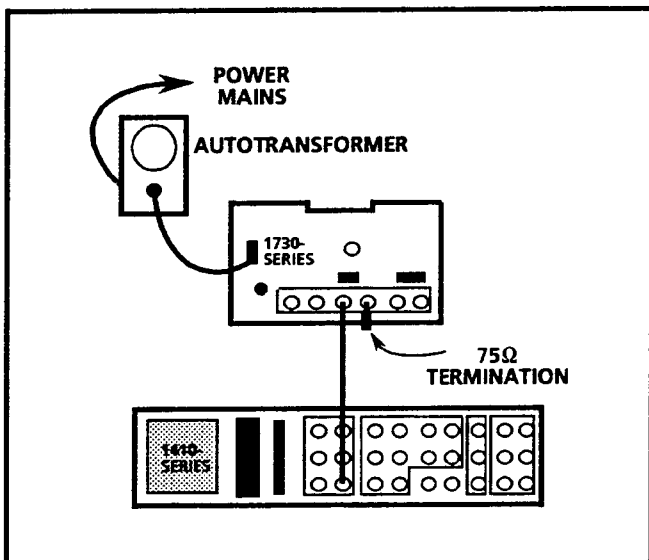

Fig. 5-13. Initial equipment hook-up for the Adjustment Procedure.
The Front-Panel Presets and Signal Connections for initiating the Adjustment Procedure are shown in Fig. 5-13. The correct settings of the front-panel controls to start this procedure are shown in Table 5-2.
- b. Connect the multiburst signal to the CH-B INPUT and terminate the opposite side of the loop-through with a 75 Ω termination. See Fig. 5-13.